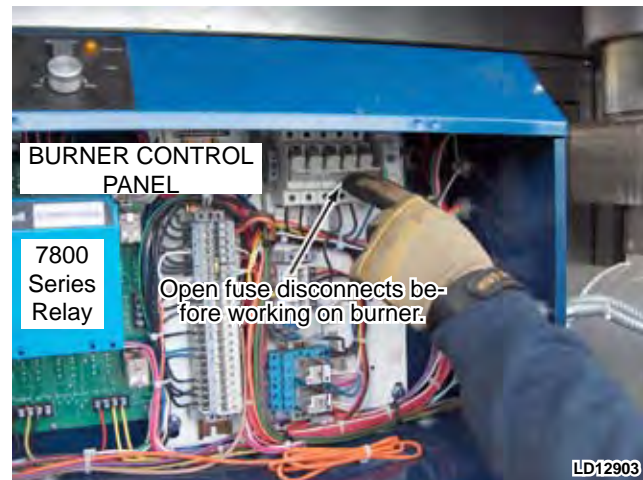

FIG. 3-14 – OPEN FUSE DISCONNECTS
1. Open fuse disconnects before working on burner (*see Fig. 3-14*).